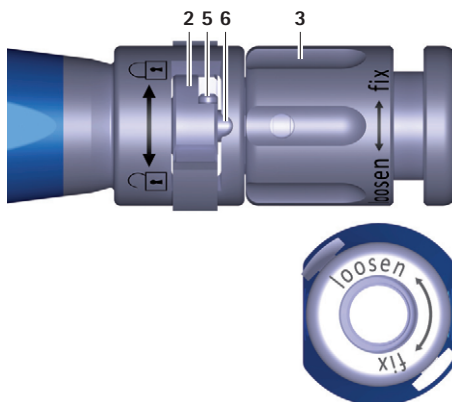

Fig. 1 Close-up view of the insertion instrument, switch open
- Turn the rotary nut **3** on the insertion instrument **A** counterclockwise ("loosen" direction) to push the rod **6** forward, see Fig. 1.
- Turn the switch **2** to the left (direction ) , see Fig. 1.
- ▶ Turn the switch **2** to the left (direction , see Fig. 1.
- ▶ Check the position for coupling the insertion instrument **A**, see Fig. 1.